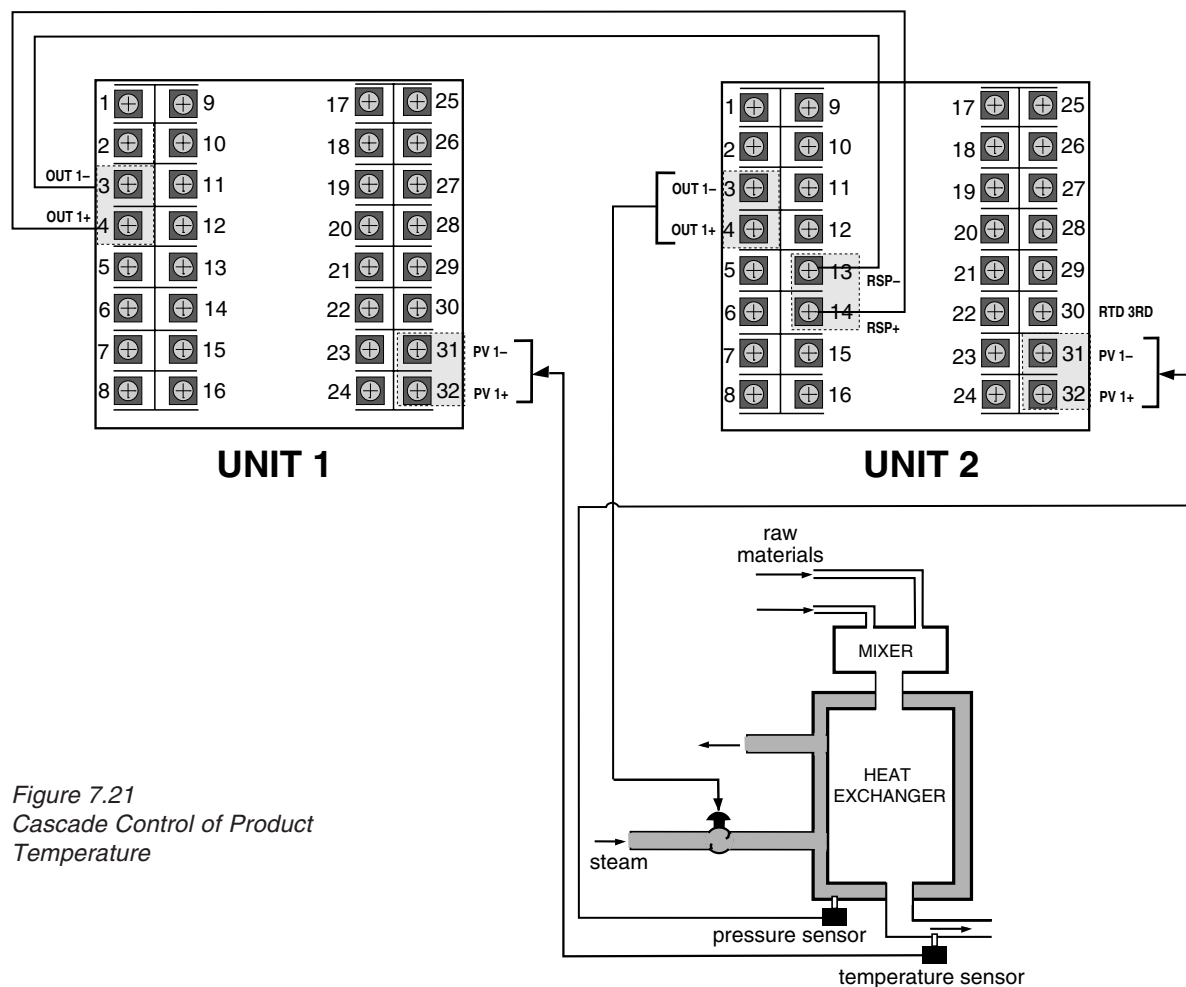

Figure 7.21
The solution to the problem is *Figure 7.21*. Have the PID controller position the steam valve, but add a sensor by means of another 535 controller that will monitor the steam pressure. The pressure control system now creates a second feedback control loop, which “cascades” from the first.
- d. Wire the control output of Unit #1 to the remote setpoint input of Unit #2 as shown in *Figure 7.21*.
2. Wire as in Figure 7.21.